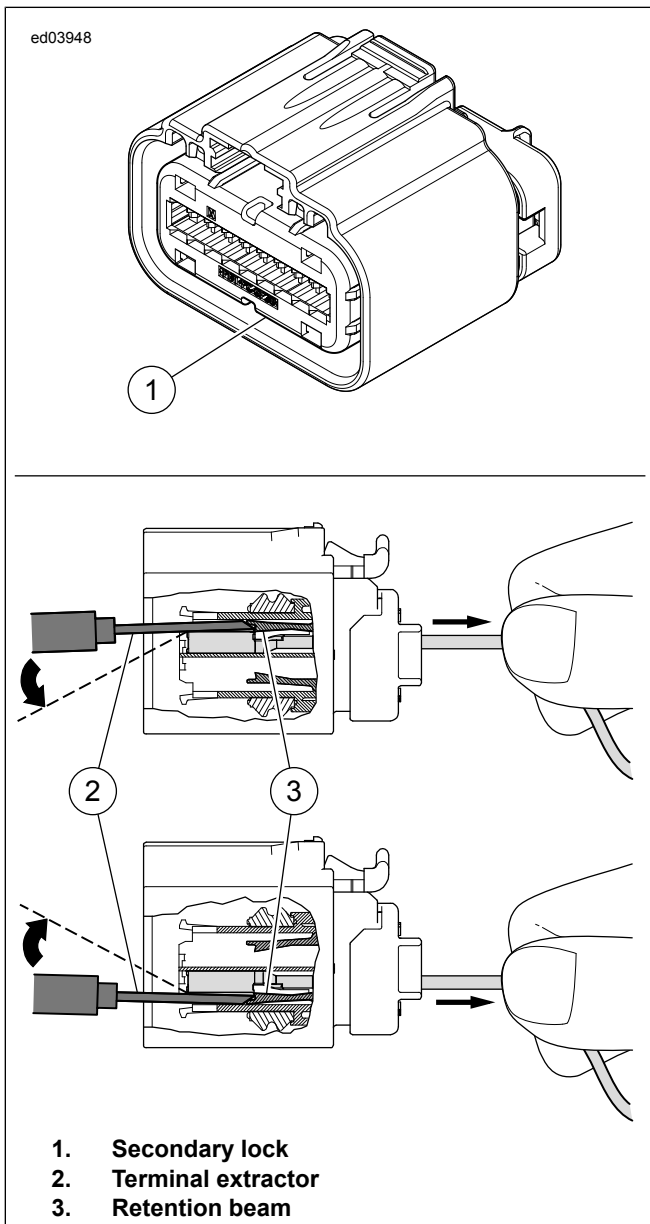

Figure B-43. Terminal Removal
1. See Figure B-43. Remove secondary lock from the connector.